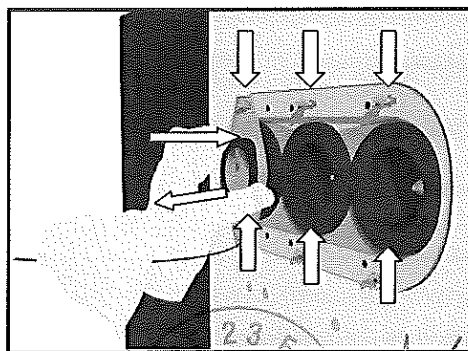

Figure 4.28: Air extraction
- 3) Apply the silicone grease supplied in the accessory kit (Syntheso Proba 270), on all the inner surface of the female bushings, paying special attention to not getting it on the busbar connection points. Then position the 6 screws (special head), to secure the plugs in the position indicated in Figure 4.28. Pay special attention to positioning the 2 long screws in the central phase.